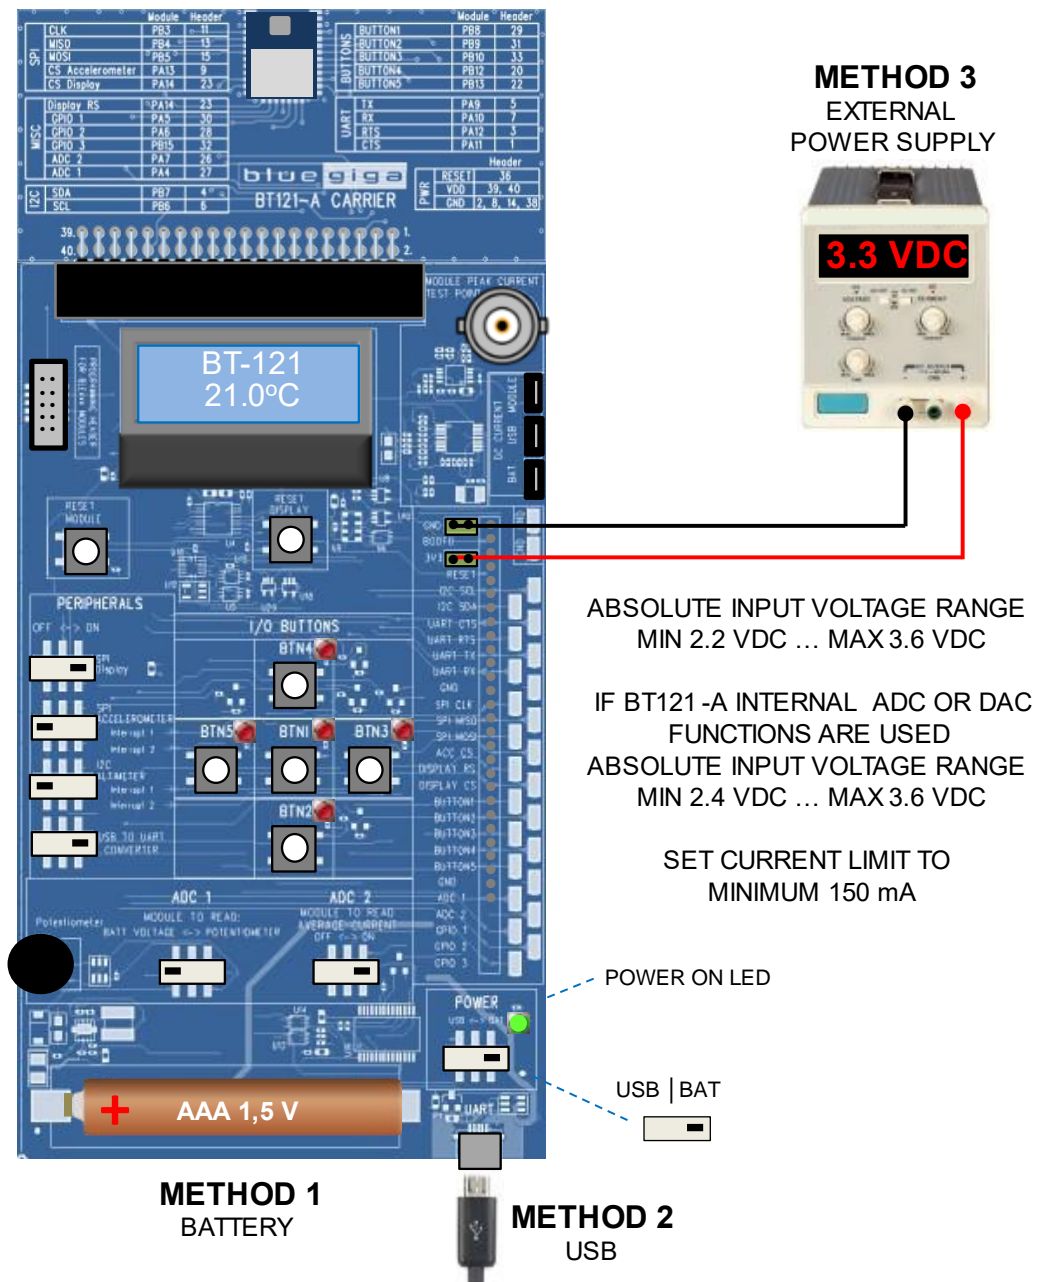

Figure 5: DKBT power supply options
- The green **POWER LED** near the **POWER SWITCH** should turn on indicating that power is fed to DKBT. See Figure 5 on next page.